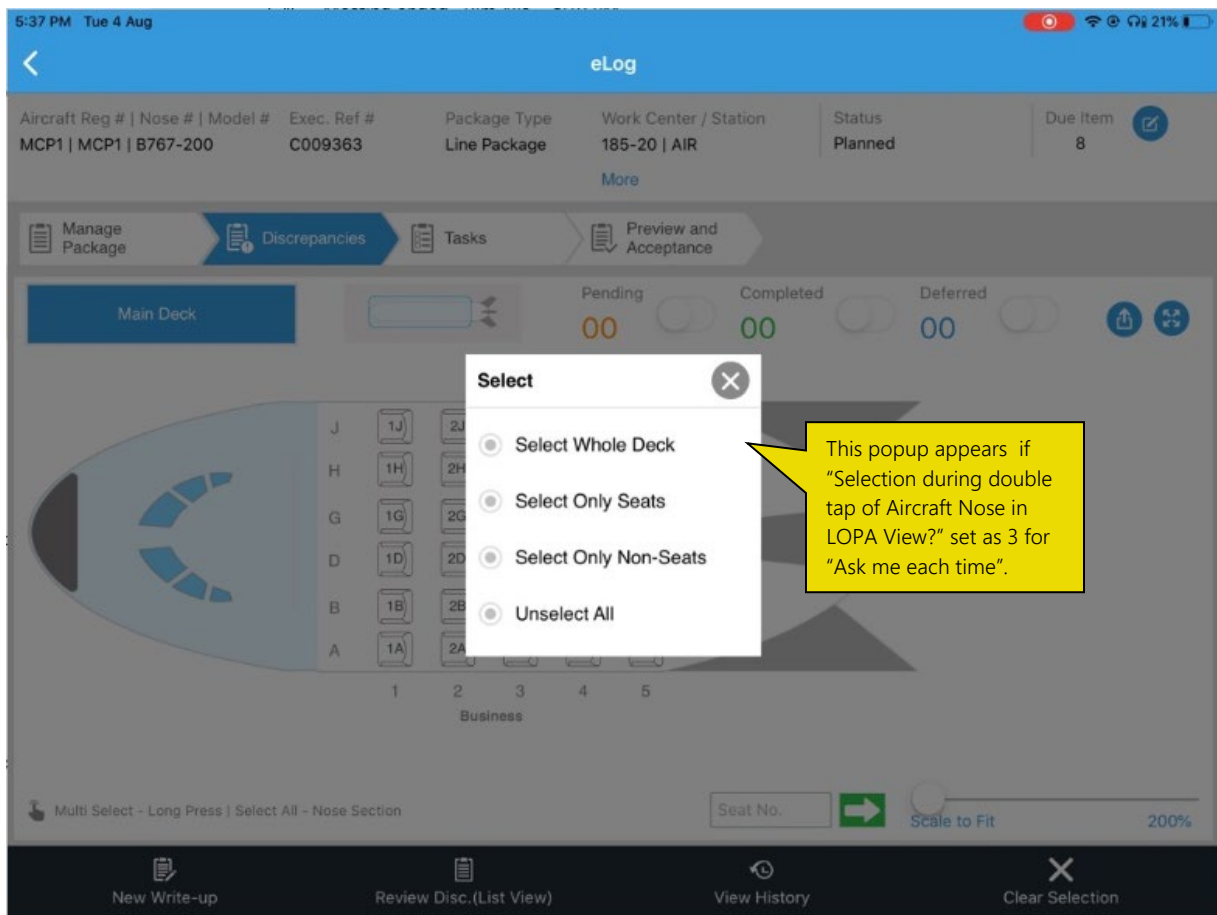

Figure 4.13: Selecting Only Seats from LOPA
3. On double tap of nose in the LOPA view, the Select popup appears, See Figure 4.13.